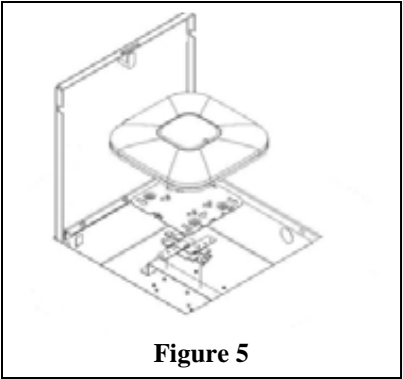

Figure 5
Step 6 - (Optional) Use the manufacturers T-Bar mount clip to attach the access point to the T-Bar mount inside the enclosure. An additional mounting plate provided by the manufacturer of the access point may be needed to attach the access point (Figure 5). Data cable(s) may need to be plugged in to the access point prior to attaching to the mount. **Cisco access points use Cisco AIR-AP-BRACKET-2 for 2600/3600 series access points and AIR-AP-BRACKET-1 for 1140/3500 series.**